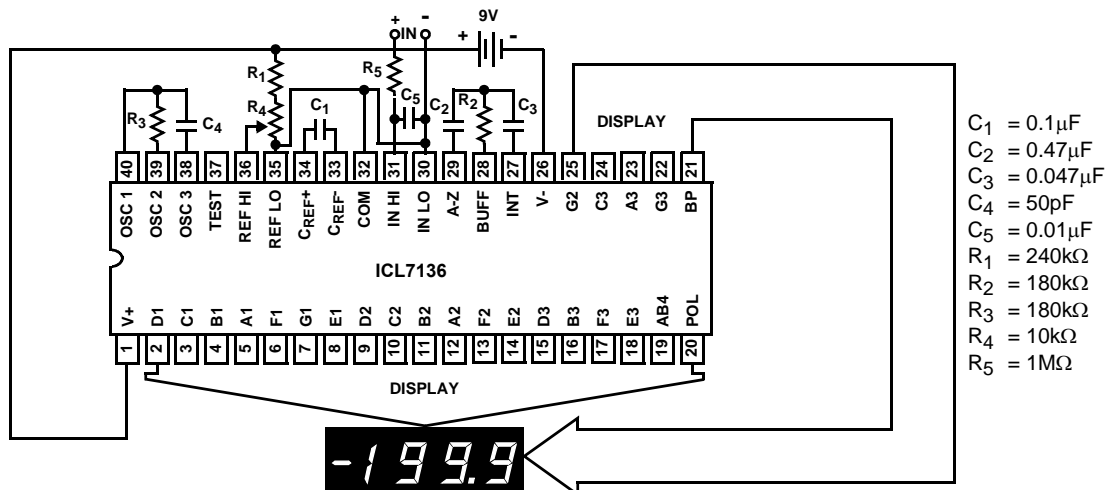

FIGURE 1. ICL7136 TEST CIRCUIT AND TYPICAL APPLICATION WITH LCD DISPLAY COMPONENTS SELECTED FOR 200mV FULL SCALE
- Unless otherwise noted, specifications apply to the ICL7136 at  $T_A = 25^\circ\text{C}$ ,  $f_{\text{CLOCK}} = 48\text{kHz}$ . ICL7136 is tested in the circuit of Figure 1.